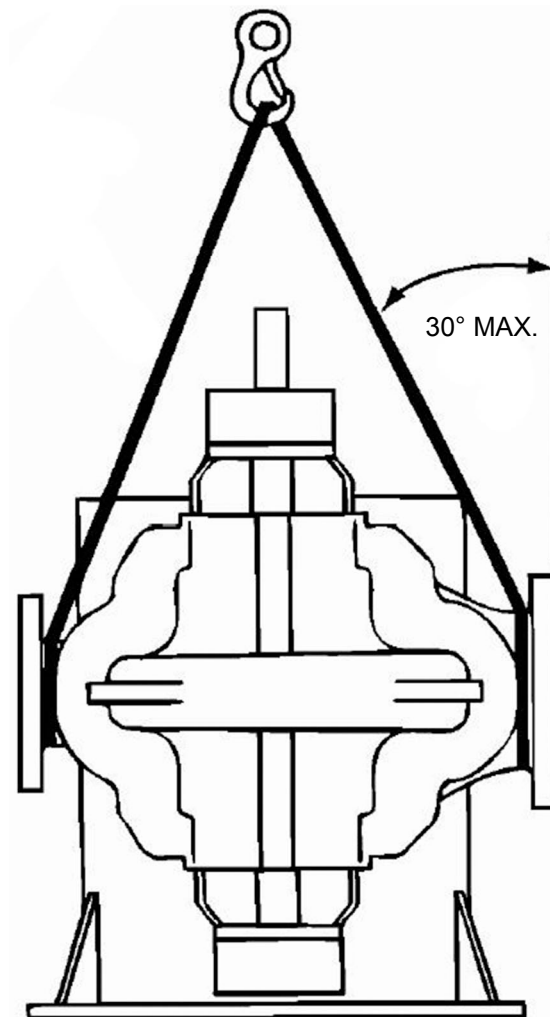

Figure 3: Vertical - Half Pedestal - Model 200
- Place nylon sling, chain or wire rope around both flanges. Use a latch hook or standard shackle and end loops. Be sure the lifting equipment is of sufficient length to keep the lift angle less than 30° from the vertical (See Figure 3).